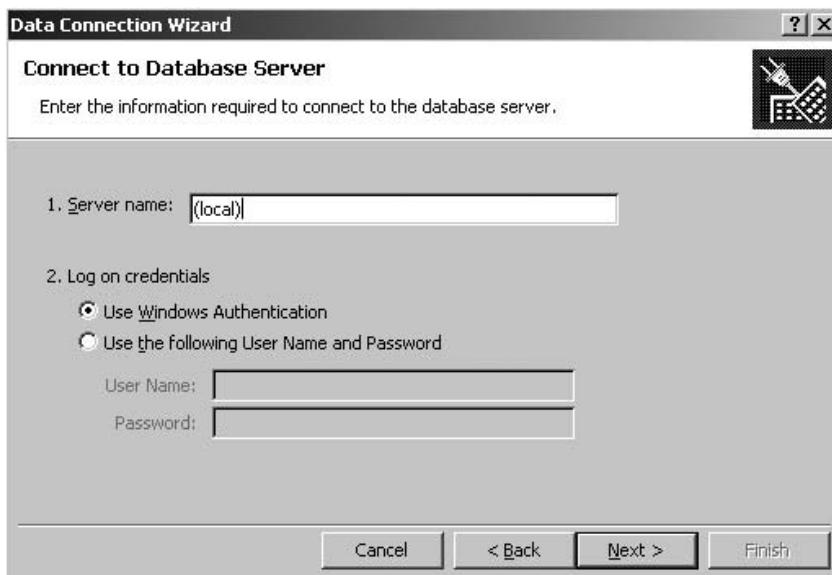

Figure 19-4 The Connect to Database Server page of the Data Connection Wizard
10. Enter the appropriate credentials for accessing this server. The Connect to Database Server page of the wizard appears as shown in Figure 19-4.